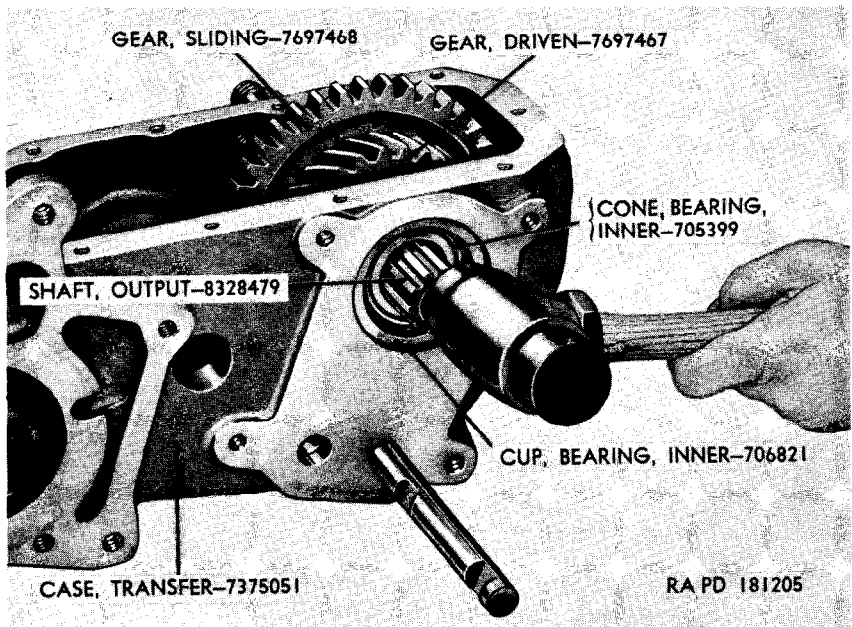
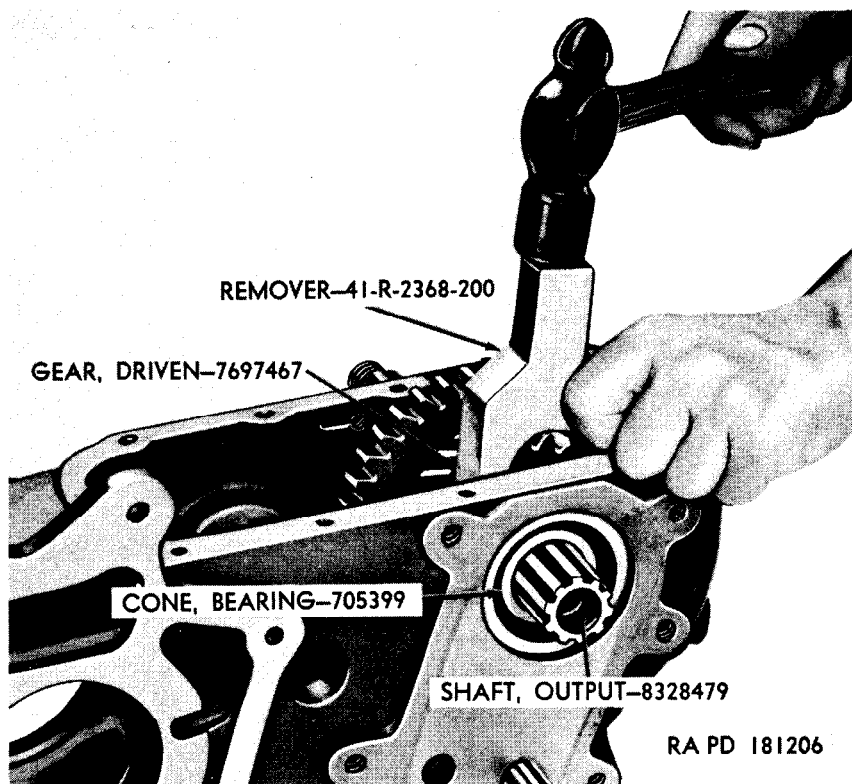
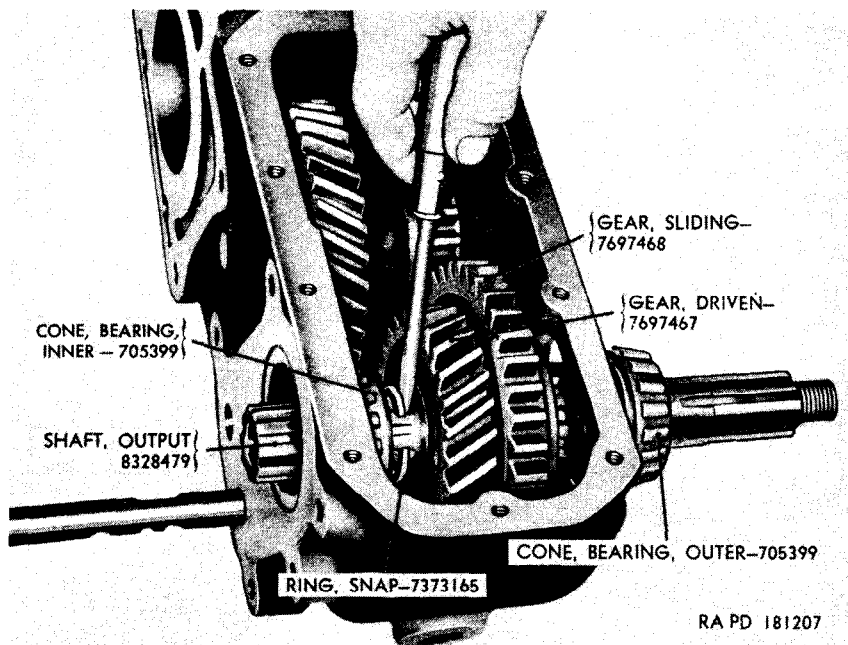

Figure 69. Tapping transfer rear axle output shaft.
Figure 70. Removing transfer rear axle output shaft inner bearing cone.
Figure 71. Removing thrust washer snap ring from transfer rear axle output shaft.
a. Tap the rear axle output shaft (fig. 69) until the rear axle output shaft inner and outer bearing cones (fig. 71) clear their respective bearing cups in sides of transfer case.
b. Install remover 41-R-2368-200 between rear axle output shaft driven gear and the inner bearing cone and tap remover (fig. 70) until bearing cone is free of its seat on rear axle output shaft. Remove the thrust washer snap ring (fig. 71) from its groove in rear axle output shaft. Pull shaft out from rear of case. Lift the rear axle output shaft thrust washer, driven gear, sliding gear, and inner bearing cone out of transfer case. Using a suitable puller, remove the outer bearing cone from the rear axle output shaft. Do not remove the front axle output shaft bushing type pilot bearing (JJ, fig. 73), which supports the rear end of the front axle output shaft,